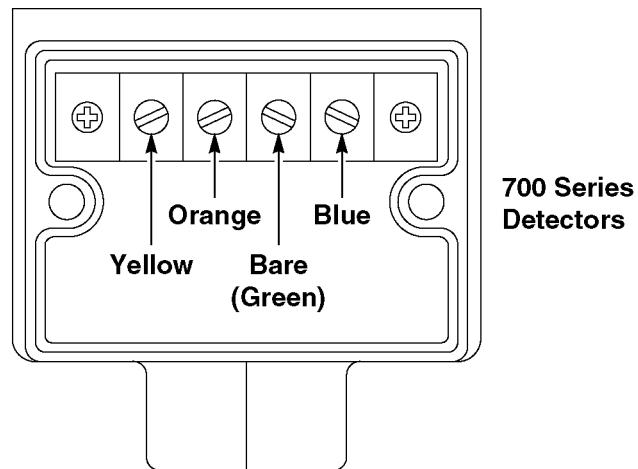

Figure 5-4. Model 739 Detector Cable Connections to Terminal Strip
5. Connect the wires as shown in Figure 5-4. (A similar illustration is located on the inside of the detector door for reference.)